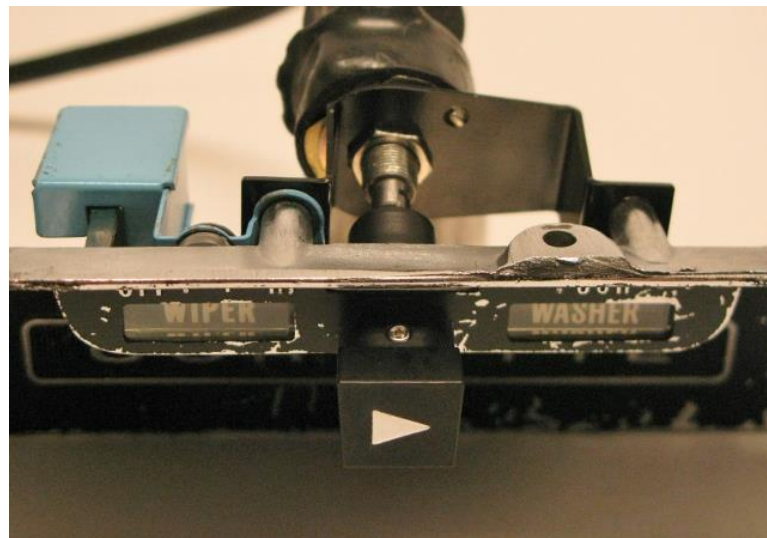

Figure 9 – Install DSE Wiper Knob
16. Slide the DSE wiper knob onto the switch extension. Align the set screw with the flat on the switch extension and tighten (Figure 9). **NOTE:** Make sure the set screw locks onto the flat on the switch extension.